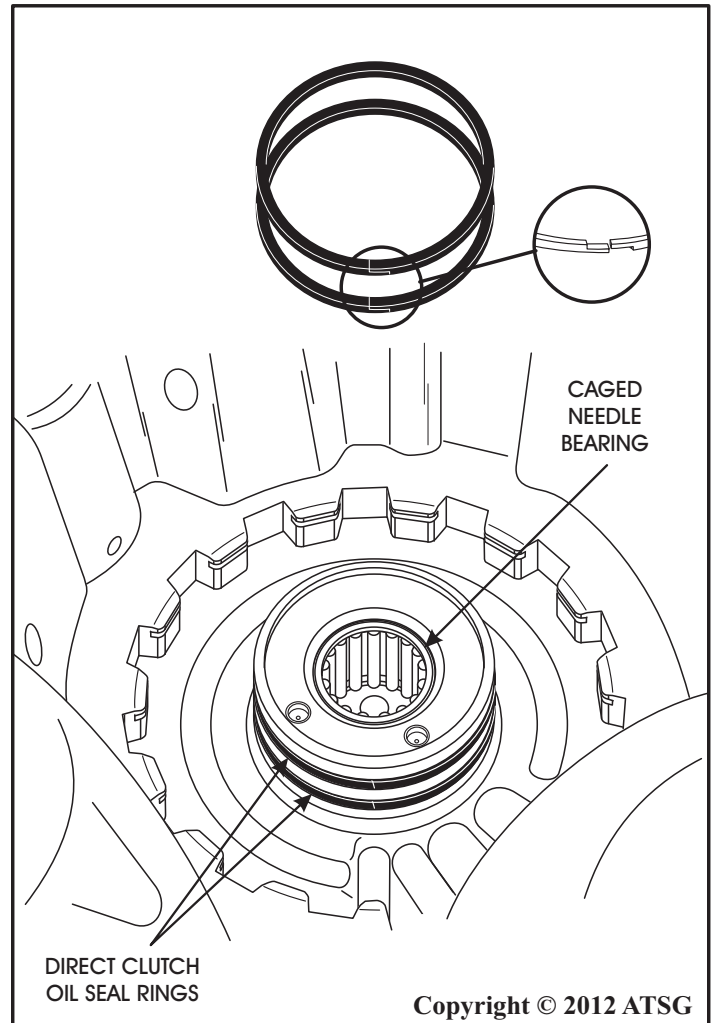

Figure 98
8. Install new caged needle bearing, as necessary, into case, as shown in Figure 98 using proper driver and adapter.
9. Install new direct clutch seal rings into the case grooves, as shown in Figure 98, and lube with small amount of Trans-Jel®.